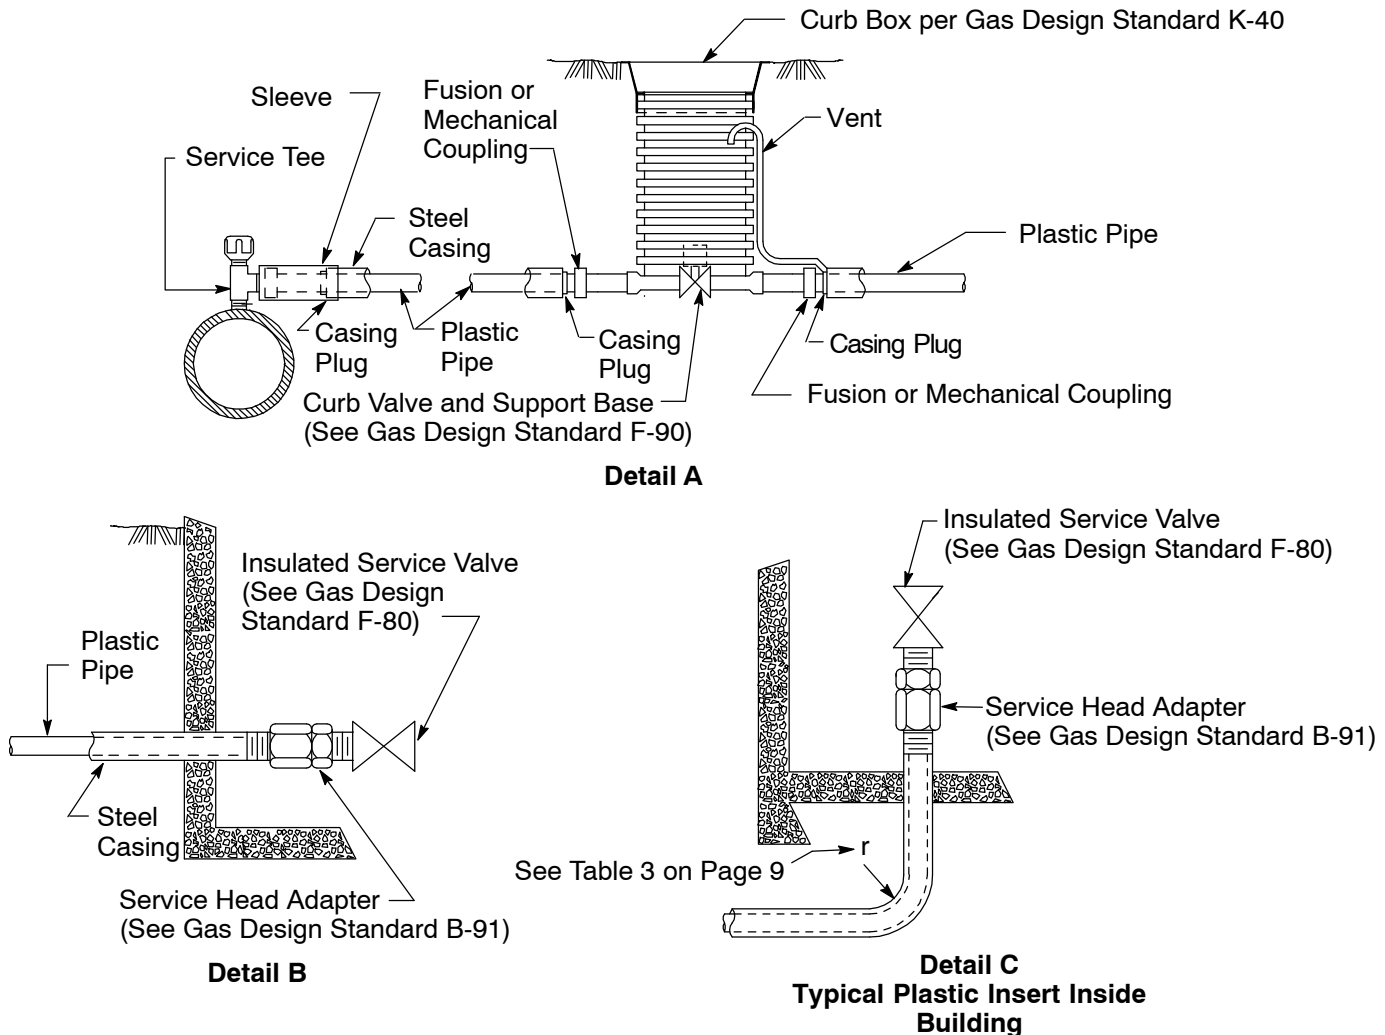

Figure 7
- b. Whenever possible, the service riser must be relocated outside of the building (see Gas Design Standard A-91). This section of Gas Design Standard A-90, "Plastic Main and Service Installation," Figure 7, "Typical Insert into Basement or Meter Box," is intended for use on service renewals where a new service riser cannot be relocated outside of the building.
- The vent pipe must be inserted approximately 6" into the annulus between the casing pipe and plastic pipe (see vent in Figure 7).